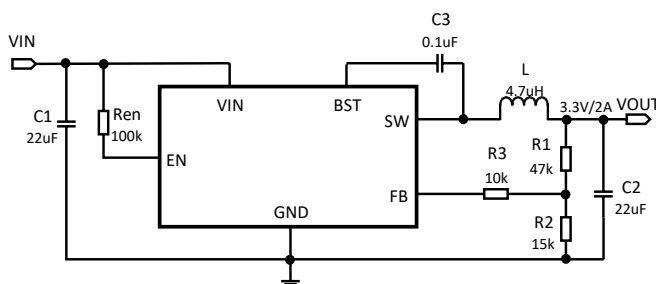

Figure 1.
2) The resistance R3 in Figure 1 makes the loop more stable. If it isn't used, the resistance R1、R2 should be adjusted(See Figure2.). The value of R1 is recommended to be about 300kΩ.